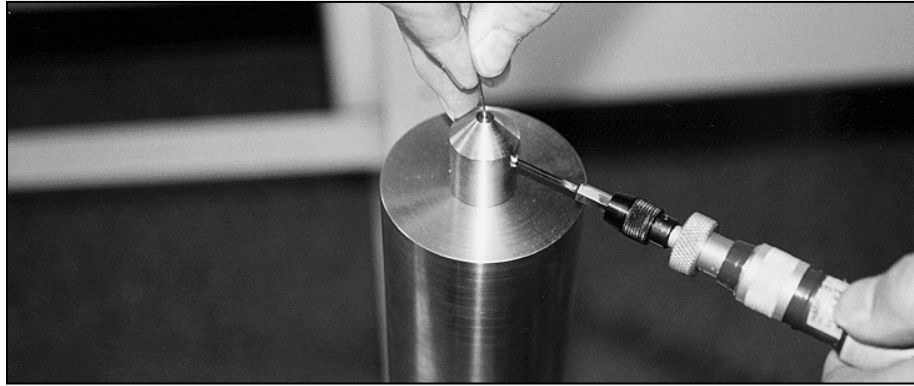

Figure 8 - Tighten the Set Screw to the Wire
- 7) Tighten the setscrew against the wire with the wrench provided (Figure 8). Do not use excessive force (18 in/lbs.); experiment with a short piece of wire first.